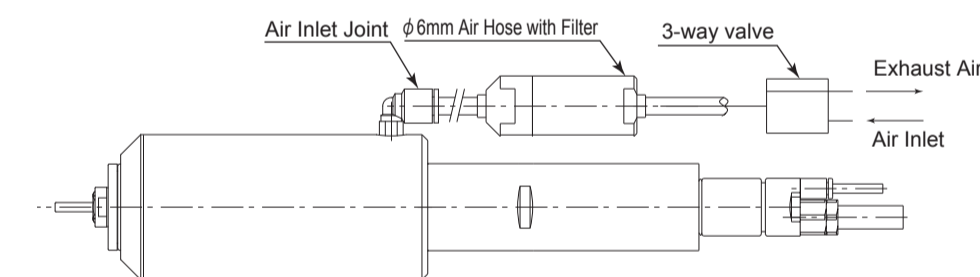

Fig. 3
- Connect the provided $\phi 6\text{mm}$ Air Hose with Filter and 3-way valve to Air Inlet Joint shown in Fig. 3.